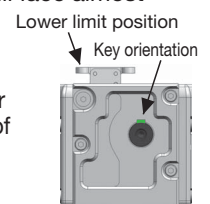

Figure 3
- If the ZCA is installed using the bottom surface of the drive section, then the keyway of the input shaft will face almost perfectly upward at the stroke lower limit (see Figure 3). However, if synchronized, a small amount of displacement will occur due to individual differences in backlash and so on. To prevent this, install a separate mechanism that adjusts the phase.